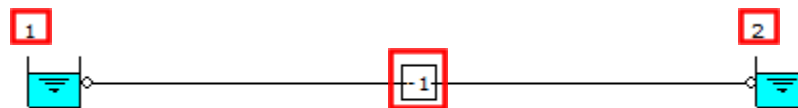
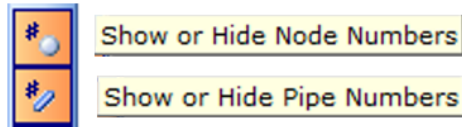

Figure 5: Hydraulic Model.
Figure 6: Show or Hide Node/Pipe Numbers buttons.
6. At this stage, we will notice that the software automatically assigns a unique *User Number* (reference Number) to each node placed on the flowsheet. All boundaries and fittings have positive *User Numbers* whereas all pipes have negative *User Numbers*. In Figure 5, we can see that the inlet and outlet boundaries are assigned with *User Number* “1” & “2” respectively and the single pipe is assigned with *User Number* “-1”. Note, if these reference values have not appeared automatically, they may be toggled off. You can toggle these back on by selecting the buttons to the left of the flowsheet titled “Show or Hide Node Numbers” and “Show or Hide Pipe Numbers”. The buttons appear as follows (Figure 6):